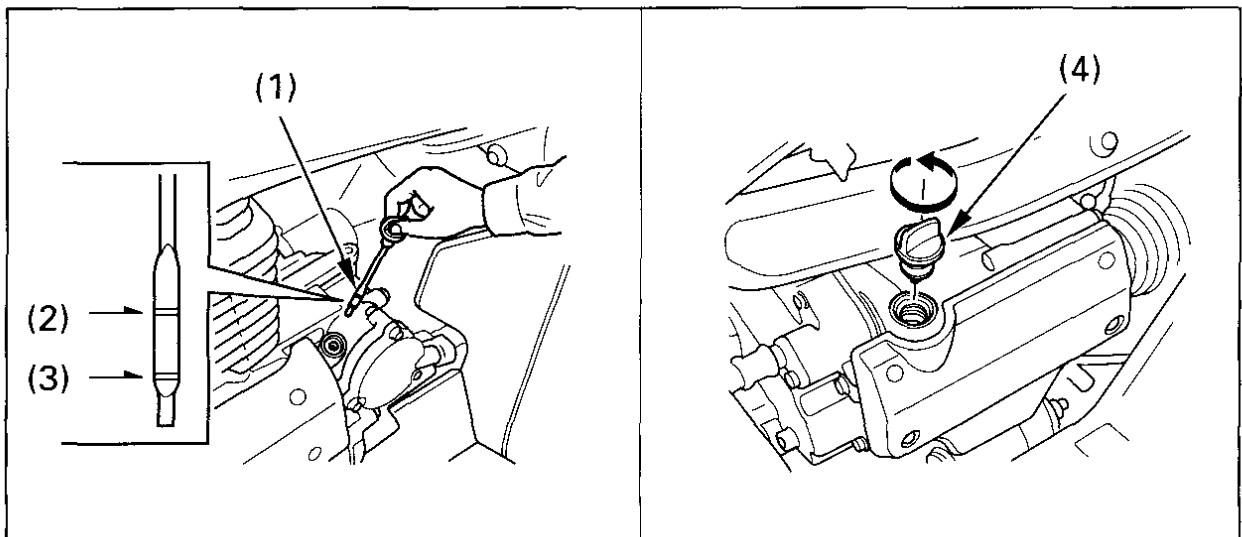

Fig. 4-10 (1) Dipstick
4. After a few minutes, remove the dipstick (1) (Fig. 4-10) from the front crankcase cover and wipe it clean.
5. Insert the dipstick without screwing it in, then remove the dipstick and check the oil level. The oil level should be between the upper level mark (2) and the lower level mark (3) on the dipstick.
6. If required, remove the oil filler cap (4) from left side of the crankcase and add the specified oil into the filler cap hole, up to the upper level mark on the dipstick. Do not overfill.